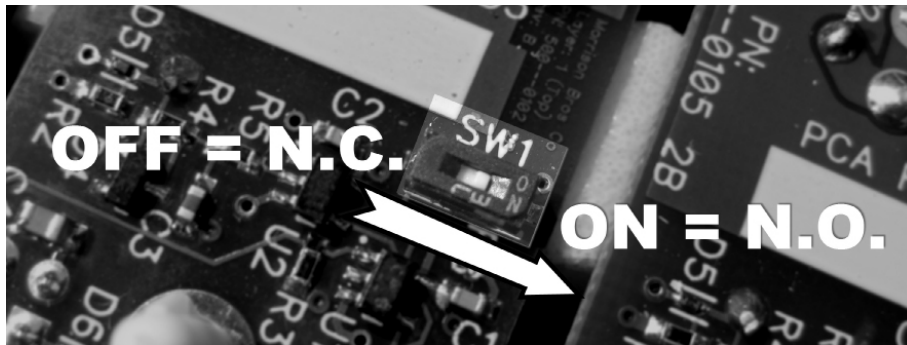

Figure 4 Configuring Input Mode with SW1
- a. **For Normally Open Contact Input Devices:** If the input device to be connected to a particular Dry Contact Input Module utilize normally open contacts, verify that the DIP switch on that module, SW1, is in the “ON” position (see Figure 4).
- b. **For Normally Closed Contact Input Devices:** If the input device to be connected to a particular Dry Contact Input Module utilizes normally closed contacts, place the DIP switch on that module, SW1, in the “OFF” position (see Figure 4).